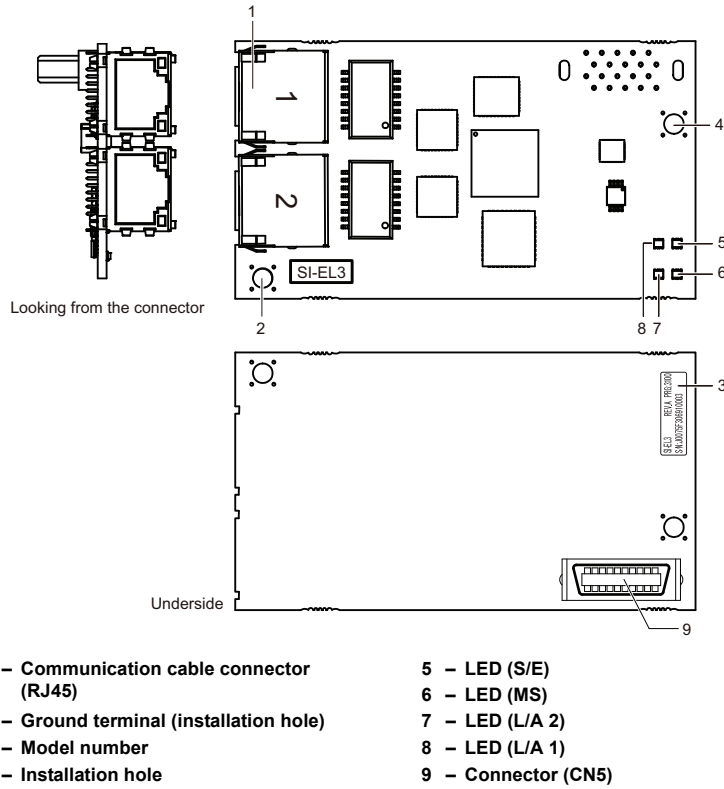

Figure 1 Option Card
- Verify receipt of the correct model by checking the information on the PCB (see *Figure 1*).